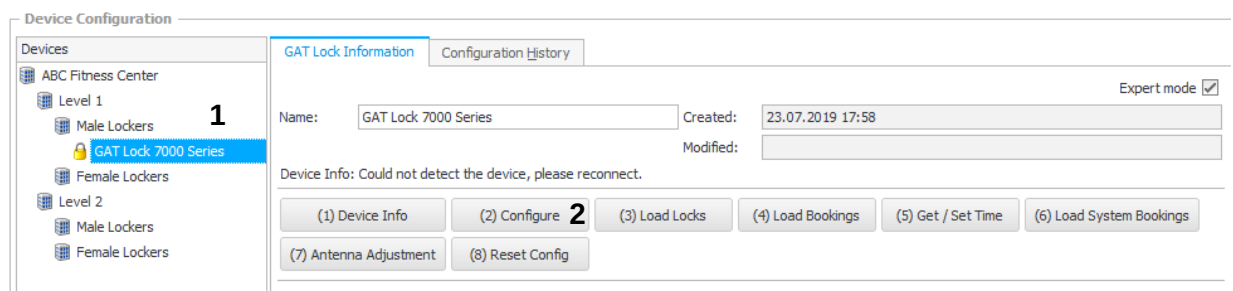

Figure 5.4 – GAT Config Manager - View configuration settings
- Select the GL7p from the “Devices” list (1 in Figure 5.4).
- Click on the “(2) Configure” button (2 in Figure 5.4).